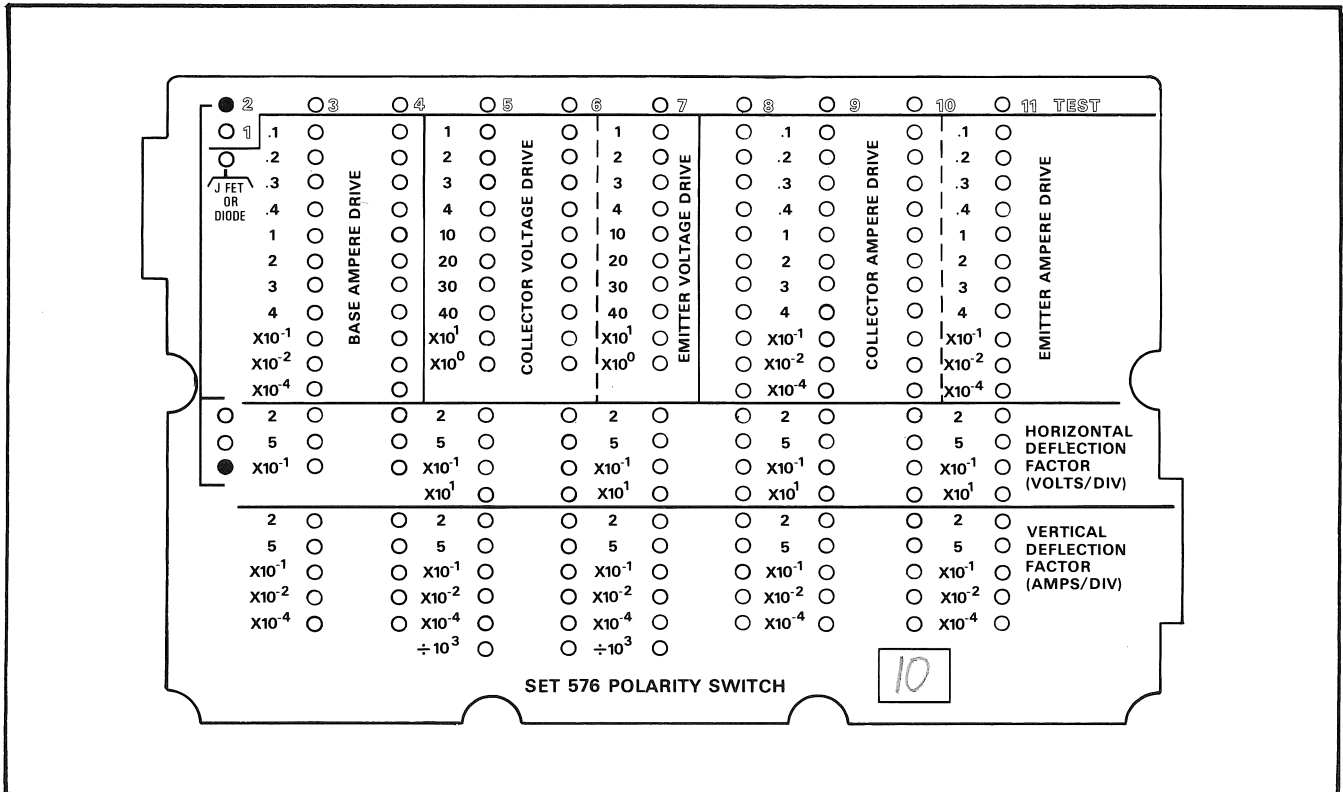

Fig. 5-10. Program 10.
a. Install a card containing program 10 (Fig. 5-10) in the card reader.